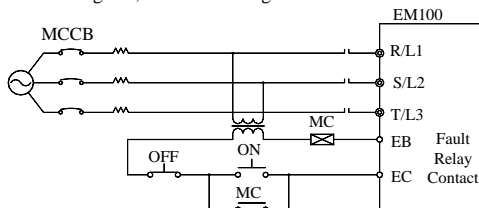

Figure 3-6 Connecting to Input Circuit Breaker
- If single MCCB is shared by two or more inverters or other devices, the contact of fault output relay shall be connected to power contactor coil, so that the power supply will be turned off by the fault signals, as shown in Figure 3-6.
Install an electromagnetic contactor which is applicable to inverter power as shown in Figure 3-6.